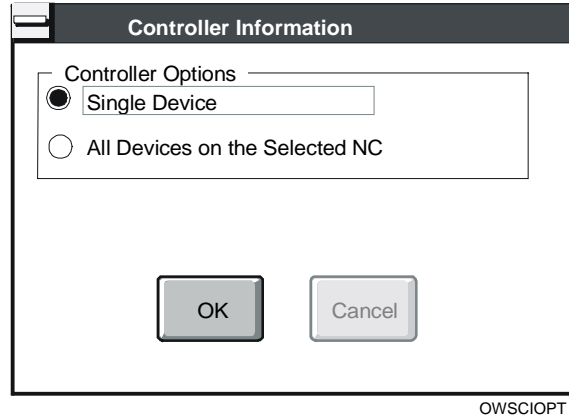

Figure 16-12: Action - Controller Information Dialog Box
1. On the Action menu, click Controller Information. The Controller Information dialog box appears (Figure 16-12).